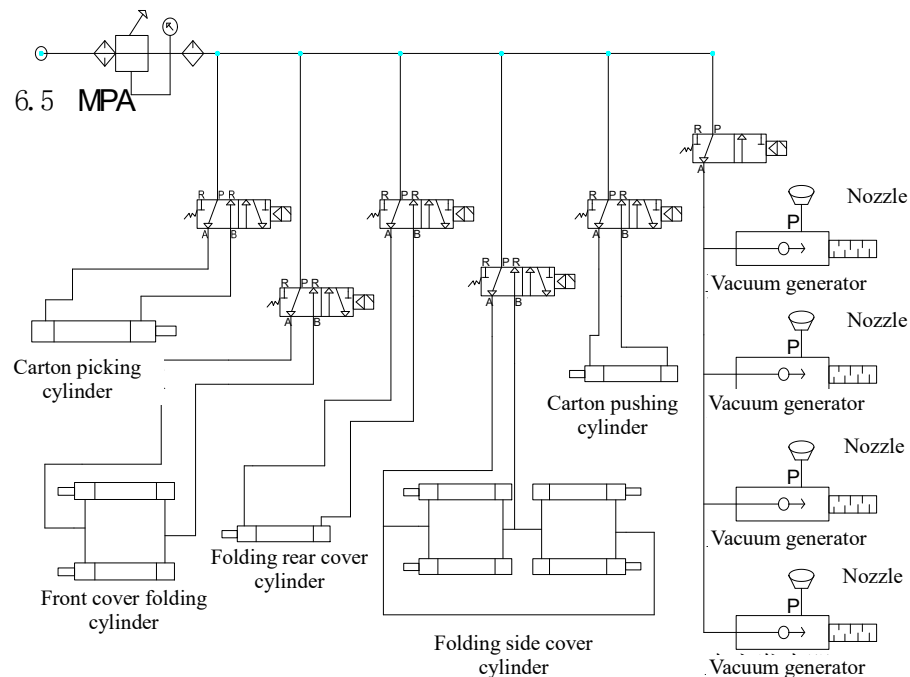

Figure 18
1) The air pressure threading is as shown in Figure 18: